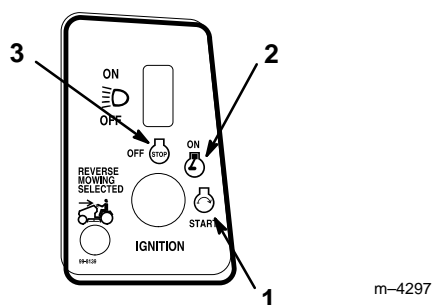

Figure 8
5. Turn the ignition key clockwise and hold it in the "START" position (Fig. 8). When the engine starts, release the key.
2. Turn the ignition key to “OFF” (Fig. 8).